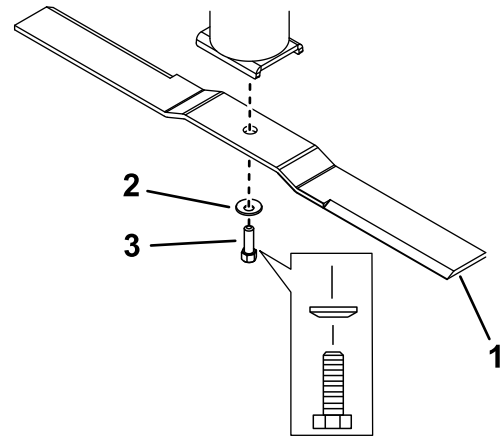

Figure 37
2. Remove the blade bolt, curved washer, and blade from the spindle cup assembly (Figure 37).
1. Install the blade onto the spindle shaft (Figure 37).
2. Install the curved washer (cupped side toward the blade) and blade bolt (Figure 37).